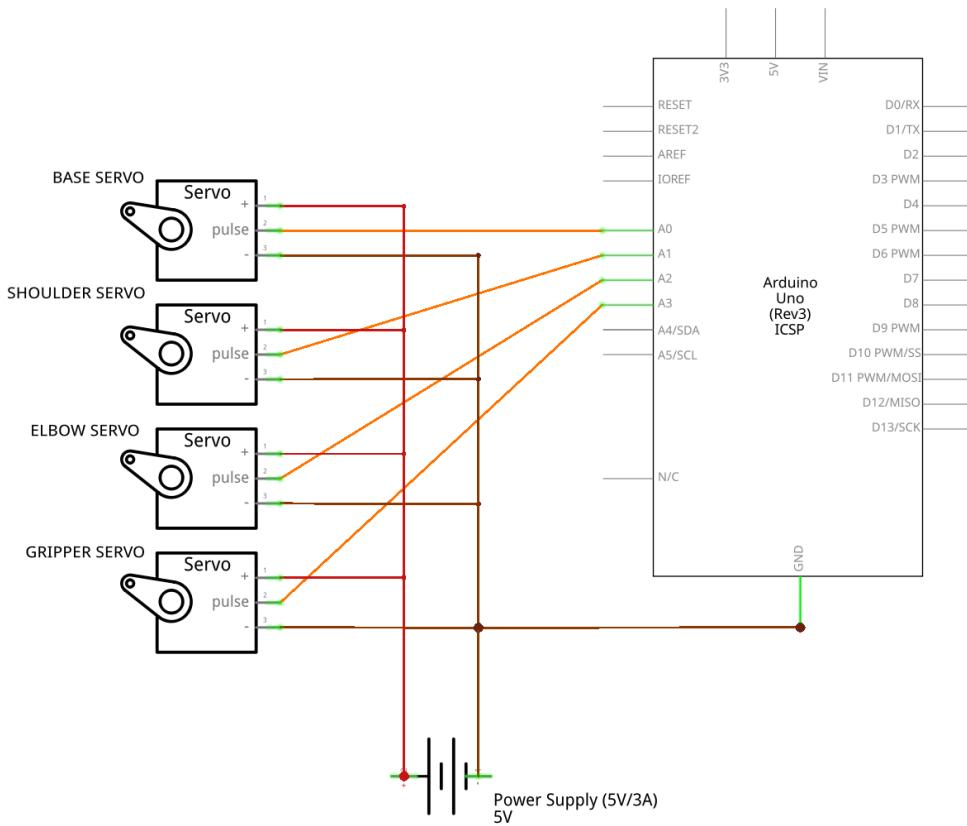

Figure 2: Circuit diagram for powering the four servos from the benchtop power supply (**remember:**
**Follow the circuit diagram exactly** as in Figure 2 below. However, you may need jumper wires to extend the servo cables to make the connections shown.